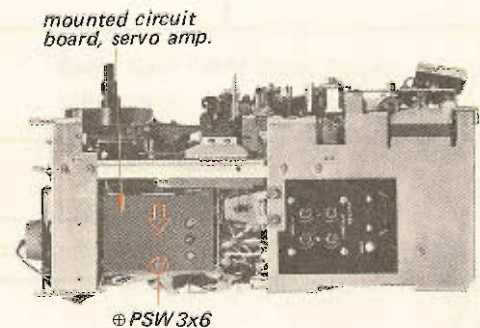

Fig. 2-4. Servo amp. circuit board removal
5. Servo Amp. Circuit Board (See Fig. 2-4.)